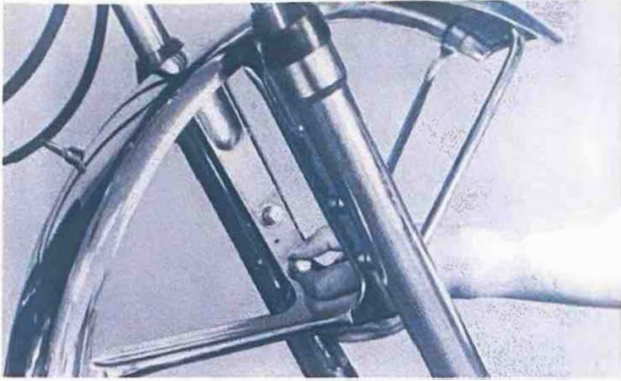

Fig. 15
7. Insert the front fender between the front forks and secure the front fender using 8 mm bolts and spring washers. (Fig. 15)